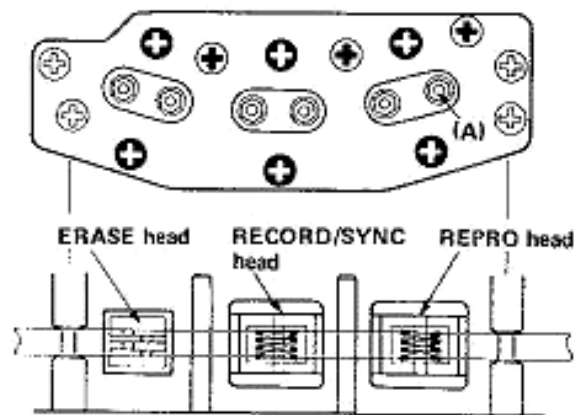

Fig. 2-12
help determine whether head contact is properly adjusted or not. To adjust, loosen the retaining nut (A) for that head (Shown in Fig. 2-12) and change the direction of the head for proper alignment.